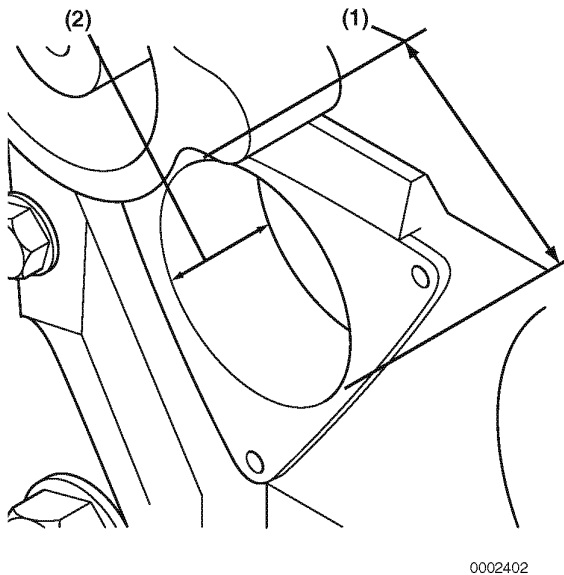

Figure 8-75
10. Measure the cavity inside diameter (Figure 8-75, (1)). Measure in at least two directions 90° apart. Record the measurements.
11. Measure the cavity depth (Figure 8-75, (2)) using a depth micrometer. Record the measurement.